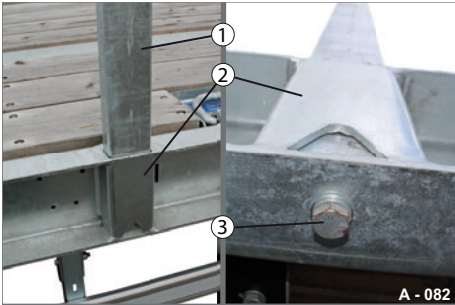

Fig. 102 Posts, safeguard from below
- ▶ Insert the post (Fig. 102/1) completely into the post pocket (Fig. 102/2).
- ▶ Secure the post with screws/washers (Fig. 102/3) from below.